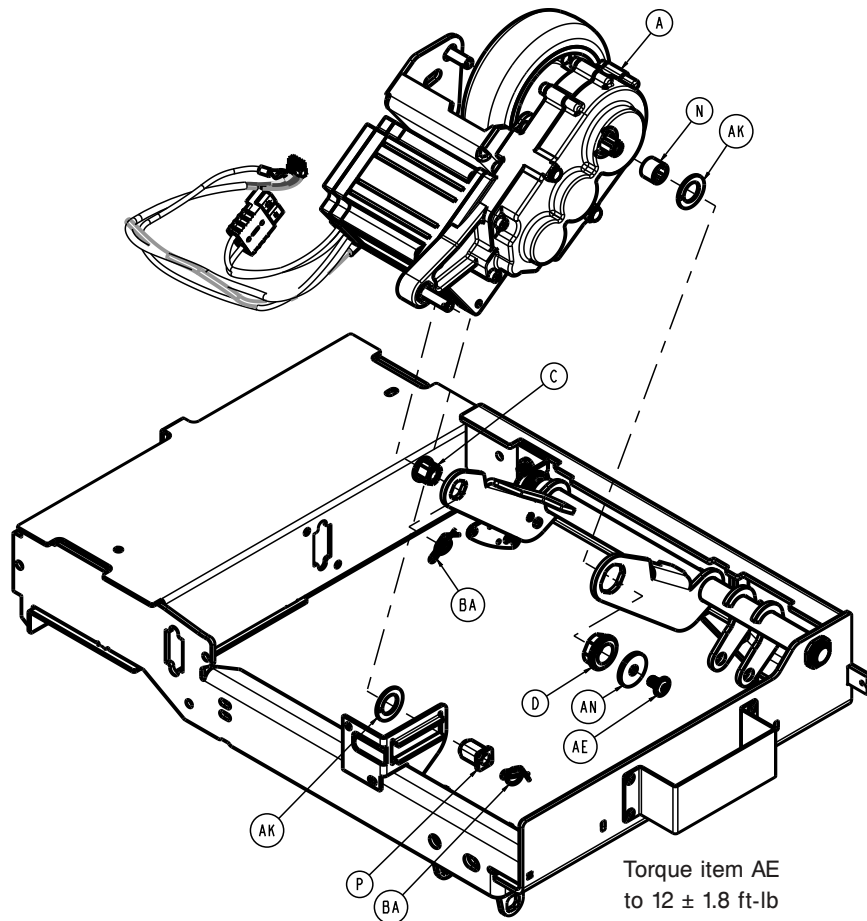

Figure 68 – Removing the Zoom motor/wheel assembly
12. Lift up on the actuator spring cartridge and using a T27 Torx driver, remove the screw (AE), washer (AN), and bushing (D) that secure the motor/wheel assembly (A) to the crank weldment (Figure 68). Save the screw, washer, and bushing.
- 13. Using needle nose pliers, remove the rue ring cotter (BA) from the motor/wheel assembly (A) (Figure 68). Save the rue ring cotter.
- 14. Using diagonal pliers, cut the two cable ties (BC) that secure the motor cables to the frame weldment.